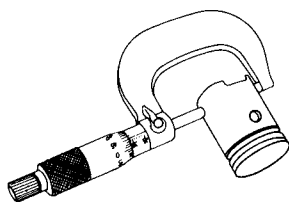

Fig. 13
(1) Clearance between piston and cylinder (Piston clearance) (Fig. 13)